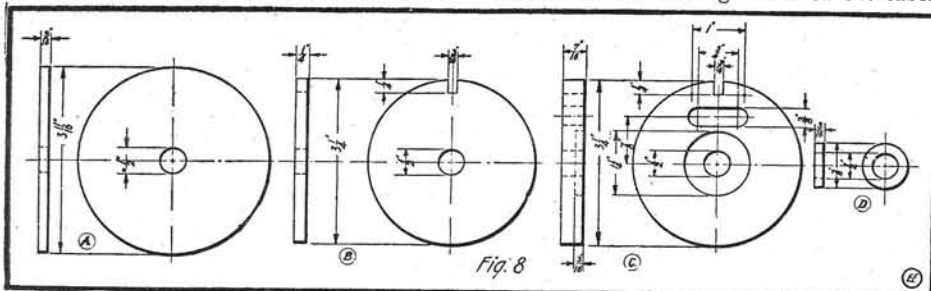

Fig. 8. End Discs of Secondary Coil.
Fig. 8 gives the size of these pieces. In turning them up, bore the 1/2-inch hole in the center first; then turn them on a wooden face plate which has a little mandrel to fit tightly in the hole. If the hole is not exactly in the center of the pieces the secondary will not be concentric with the primary. Take (A) first. After shellacking and rubbing it down fasten it in the left-hand end of the primary tube with strong glue. To fit properly in the box the end of the tube must be at right angles with its axis.